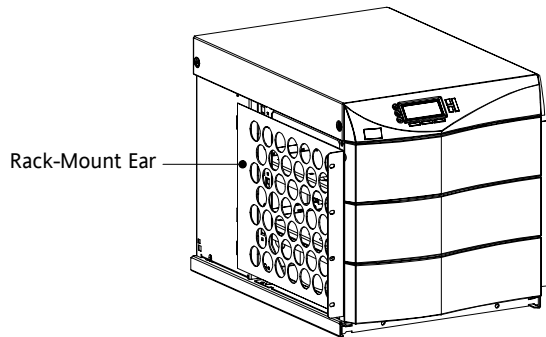

Figure 10. Rack-Mount Ear Installed
5. Install a rack-mount ear (2 for 6-slot cabinets) on each side of the UPS cabinet (see Figure 10).